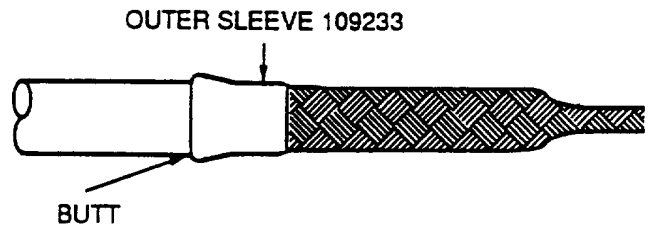

Figure 21. Mount Outer Sleeve
b. Slide inner sleeve, 109256 over braided shield to butt cut end of outer jacket as shown in Figure 21.
b. Slide outer sleeve over braided shield to butt cut end of outer jacket (Figure 21).